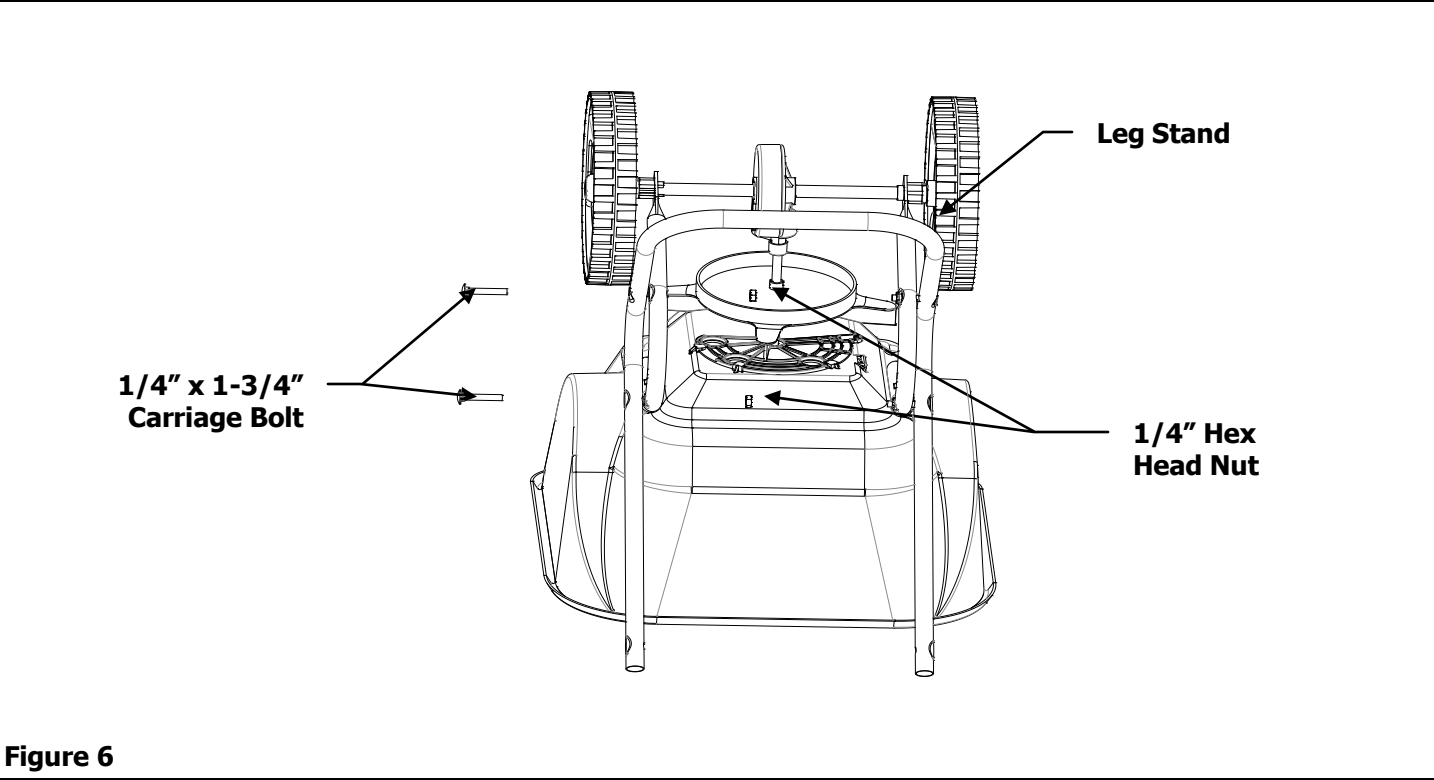

Figure 6
6. Attach the Leg Stand to the Hopper Supports using four 1/4" x 1-3/4" Carriage Bolts and four 1/4" Hex Head Nuts. See Figure 6.